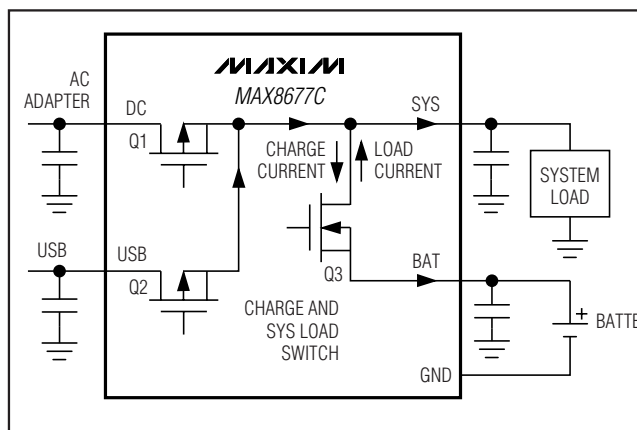

Figure 4. Smart Power Selector Block Diagram
The MAX8677C Smart Power Selector seamlessly distributes power between the external inputs, the battery, and the system load (Figure 4). The basic functions performed are:
An internal 40mΩ MOSFET connects SYS to BAT (Q3, Figure 4) when no voltage source is available at DC or USB. When an external source is detected at DC or USB, this switch is opened and SYS is powered from the valid input source through the input limiter.
The input voltage limiter is essentially an LDO regulator. While in dropout, the regulator dissipates a small I^2R loss through the 0.2Ω MOSFET (Q1, Figure 4) between DC and SYS. With an AC adapter or USB source connected, the input limiter distributes power from the external power source to the system load and battery charger. In addition to the input limiter's primary function of passing power to the system and charger loads at SYS, it performs several additional functions to optimize use of available power:
- **Input Voltage Limiting.** If an input voltage is above the overvoltage threshold (6.9V typ), the MAX8677C enters overvoltage lockout (OVLO). OVLO protects the MAX8677C and downstream circuitry from high-voltage stress up to 14V at DC and 8V at USB. In OVLO, VL remains on, the input switch that sees overvoltage (Q1, Q3, Figure 4) opens, and the appropriate power-monitor output (\overline{DOK} , \overline{UOK}) is high impedance, and \overline{CHG} is high impedance.
If both DC and USB see overvoltage, both input switches (Q1 and Q2, Figure 4) open and the charger turns off. The BAT-SYS switch (Q3, Figure 4) closes, allowing the battery to power SYS.
An input is also invalid if it is less than BAT, or less than the DC undervoltage threshold of 3.5V (falling). With an invalid input voltage, SYS connects to BAT through a $40m\Omega$ switch (Q3, Figure 4).
- **Adaptive Battery Charging.** While the system is powered from DC, the charger draws power from SYS to charge the battery. If the charger load plus system load exceeds the input current limit, an adaptive charger control loop reduces charge current to prevent the SYS voltage from collapsing. Maintaining a higher SYS voltage improves efficiency and reduces power dissipation in the input limiter. The total current through the switch (Q1 or Q2 in Figure 4) is the sum of the load current at SYS and the battery charging current. The limiter clamps at 4.35V, so input voltages greater than 4.35V can increase power dissipation in the limiter. The limiter power loss is $(V_{DC} - 4.35) \times I$, but not less than $I^2 \times 0.2\Omega$. Also note that the MAX8677C turns off any input that exceeds 6.9V (nominal).